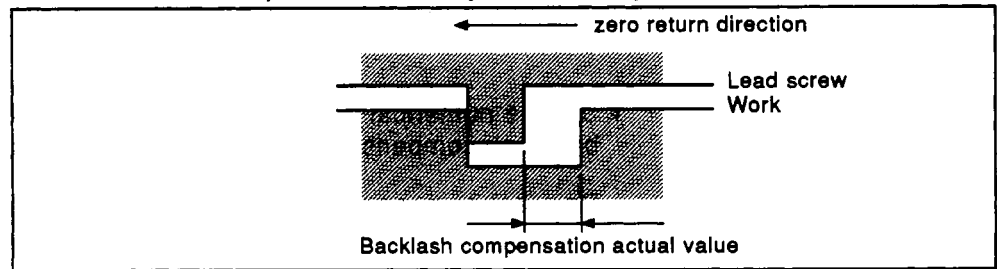

Fig. 3.4 Backlash Compensation
(6) Backlash compensation
- Allows a backlash compensation (see Fig. 3.4) to be programmed in for accurate positioning. Note that there is also an error compensation facility to allow for tolerances within the mechanical drive, see note (9).